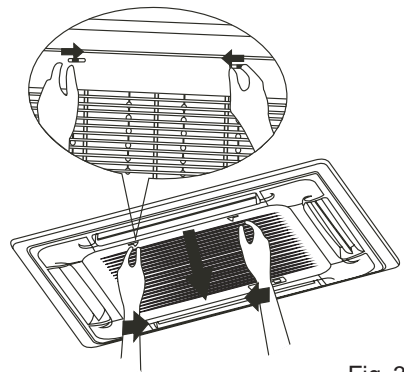

Fig. 3
- 1) Open the air inlet by moving both locking slides, as it is shown in Fig. 3. It is necessary to move the slides closer to each other, as it is shown by the arrows.